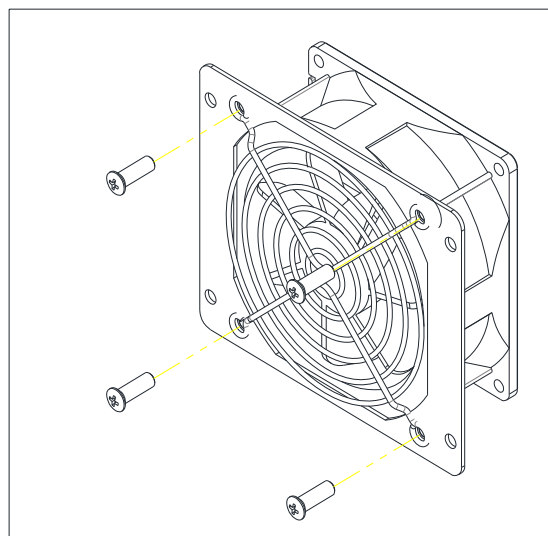

Figure 7-3 Replace cooling fans
3. Use a No.2 Phillips head screwdriver to remove the 4 screws fixing every fan. (Figure 7-3)